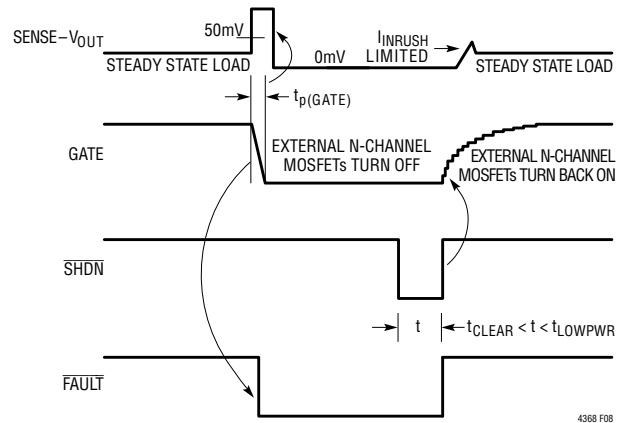

Figure 9. Forward Overcurrent Fault with RETRY Pin Grounded
- Latch off the MOSFETs by grounding the RETRY pin (no external RETRY capacitor needed). This latches the forward overcurrent fault. The external MOSFETs are kept in the off condition until the SHDN input pin is toggled low then high ( $t_{CLEAR}$  pulse width  $< t_{LOWPWR}$ ). See Figure 9 timing diagram.